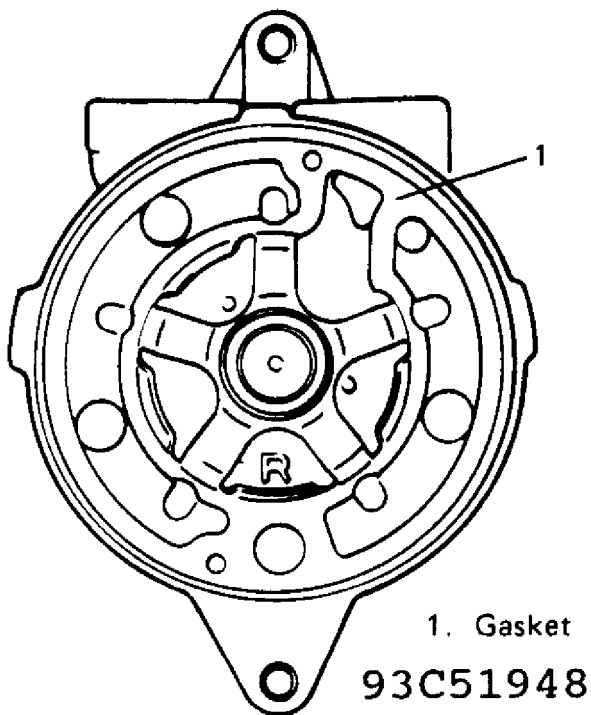

Fig. 24: Proper Gasket Placement on Rear Valve Plate
- d. Lubricate gasket with compressor oil and install it to valve plate. See Fig. 24.